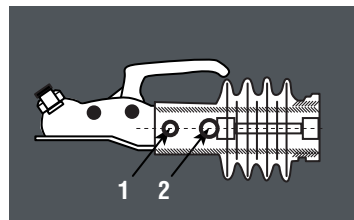
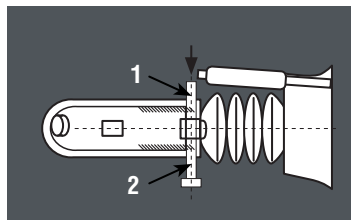
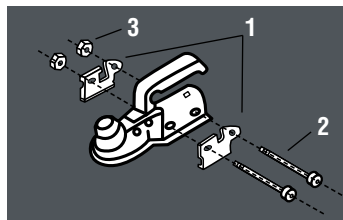

Fig 4
Fig 5
Fig 6
Before you start to remove the existing fixing bolts, please note the following: On most overrun assemblies, the shock absorber is secured by the fixing bolt (Fig 4/Item 2).
The shock absorber (damper) extends independently. Enclosed with this box is a retaining pin (Fig 5/Item 1) to aid assembly.
- a Remove gaiter and loosen self-locking nut from hexagon cap bolt (Fig 4/Item 1 and Fig 5/Item 2)
- c Push or knock out hex. cap bolt (Fig 4/Item 1)
- d Knock through retaining pin (Fig 5/2) with (Fig 5/1). Leave the pin in the shaft for centring the shock absorber (damper).
### Horizontal Bolt Fitting: (for AL-KO Overruns), Fig 6.
Fit parts as shown in Figs 6 or 7. If a spacer sleeve is in the draw shaft, thread this on as well. Push retaining pin (Fig 5/Item 1) through (with the bolt behind - horizontal or vertical). Shock absorber (damper), is threaded on.
To make sure the shock absorber (damper) is threaded on, push the draw shaft in and out. If you can feel resistance, then it is correctly positioned. Always insert horizontal bolts as shown in Figs 6 and 7. ie from right to left (when facing caravan) as this allows correct clearances. Always insert vertical bolt from top to bottom and re-use original shim used on the overrun.